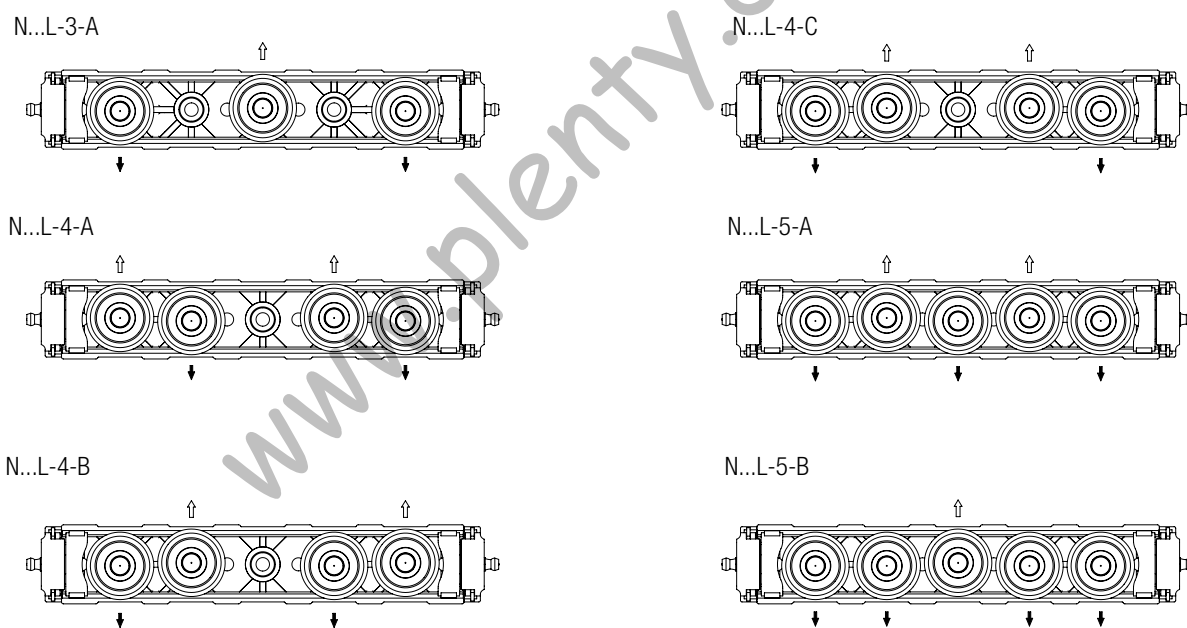

Fig. 32
** The number of roller varies according to the configuration, see pg. 22, fig. 32